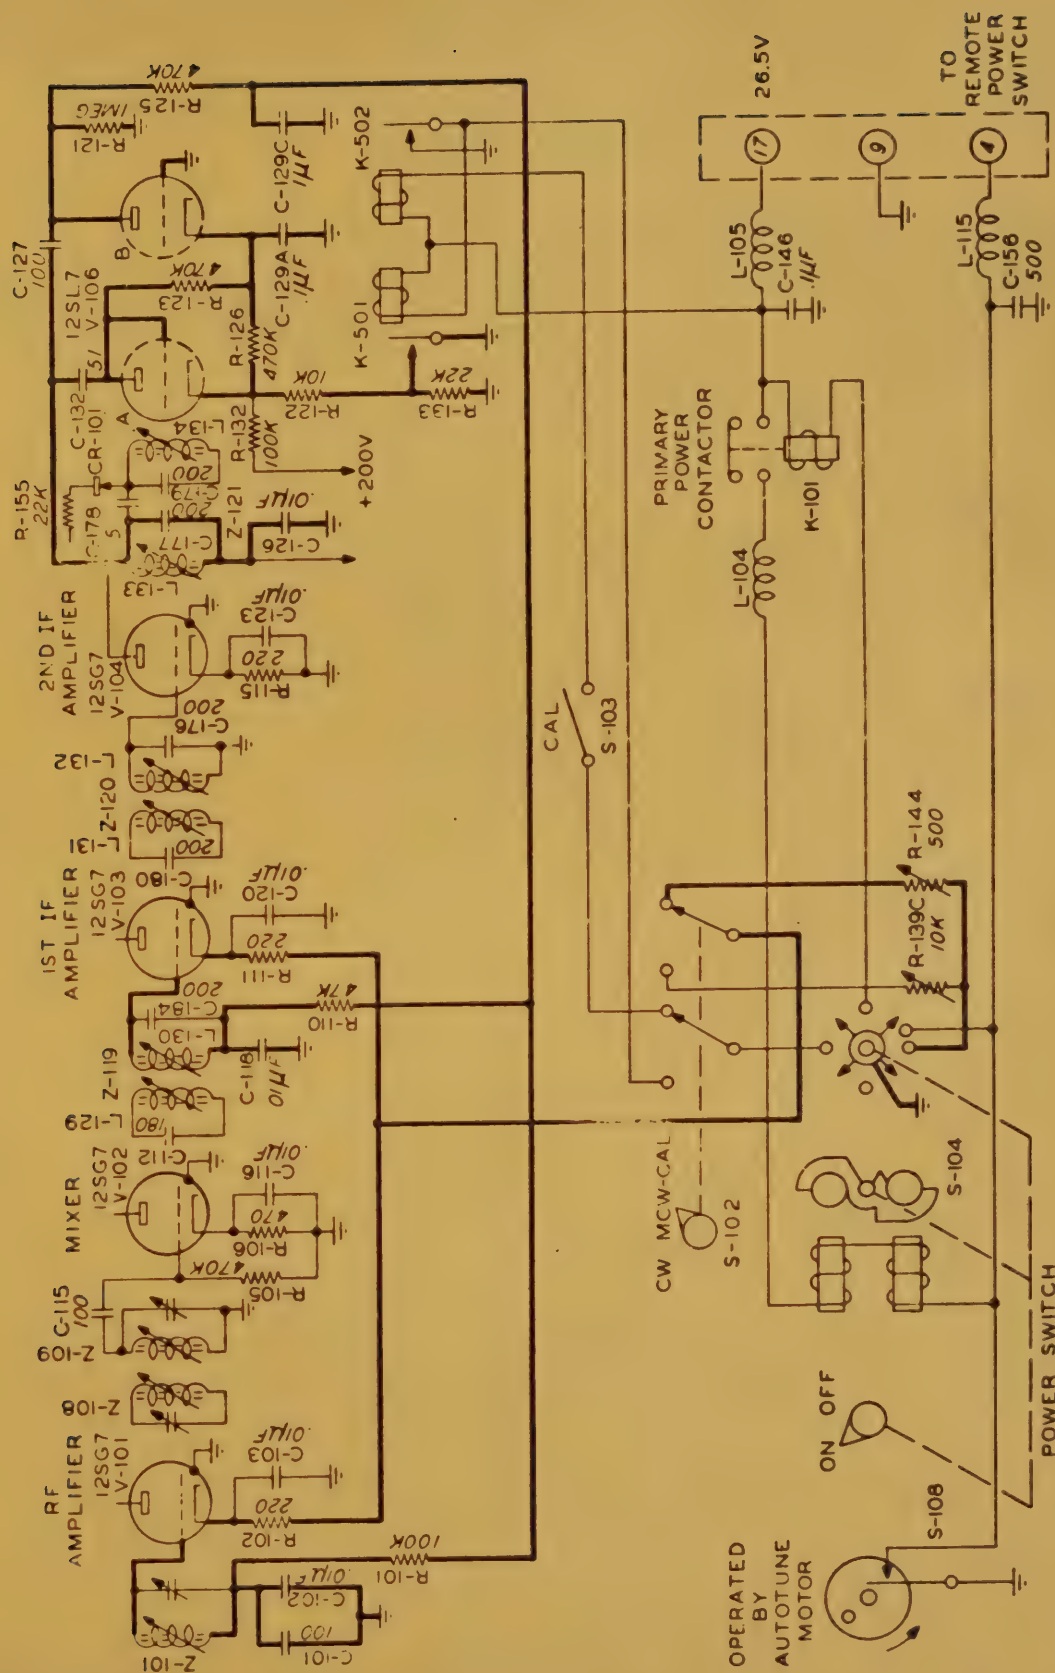

Figure 2-13 Automatic Volume Control Circuit
(3) AUTOMATIC VOLUME CONTROL. - Delayed avc is employed in this receiver. An accelerated characteristic which enables the avc circuit to reach maximum efficiency on strong signals is a feature of the circuit. Refer to Figure 2-13.